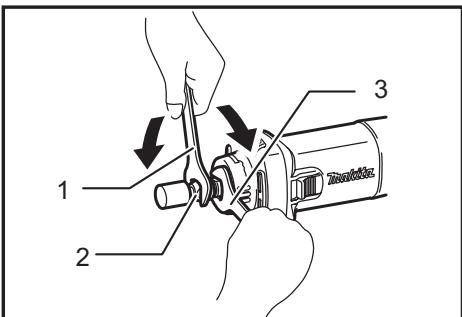

Fig.2
► Fig.2: 1. Wrench 13 2. Collet nut 3. Wrench 13